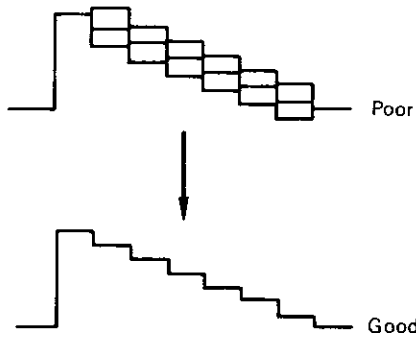

Fig. 63
- ① Connect the oscilloscope probe to TP5.
- ② Adjust VC101 using the same criterion as shown in Figure 63.